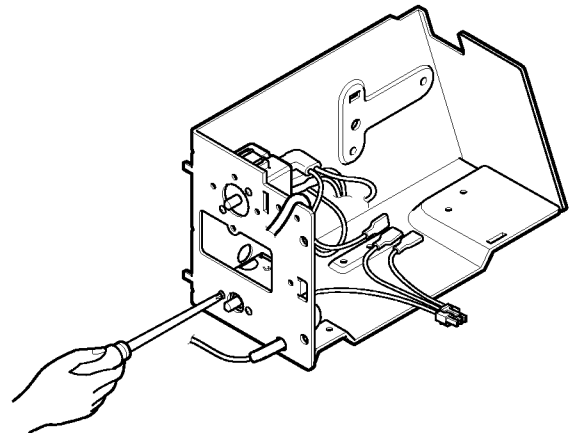

Figure 13
8. Re-install the components by referring to the removed procedure, above. (See figure 13)